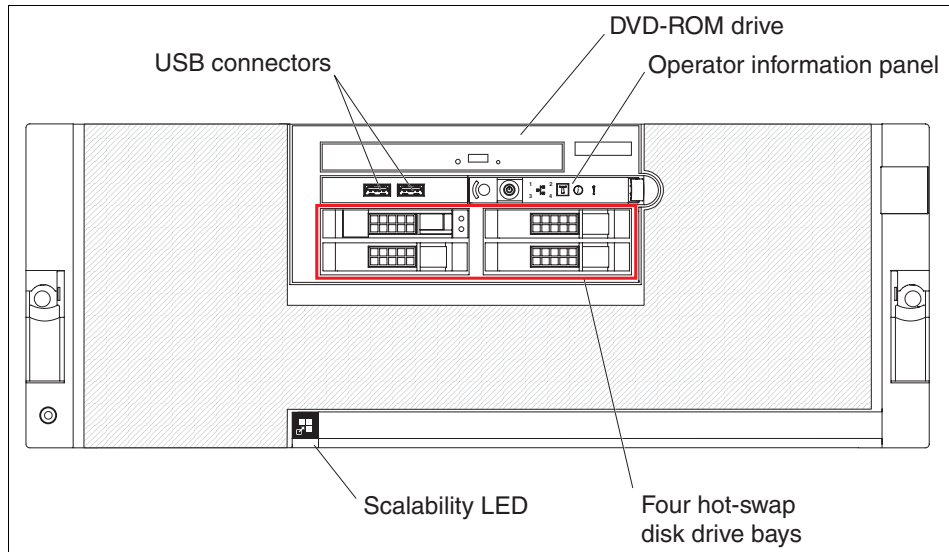

Figure 1-2 Front panel of x3850 M2 and x3950 M2
The components and connectors on the front and rear of the system are shown in Figure 1-2 on page 3 and Figure 1-3 on page 4.
The front panel of the x3850 M2 and the x3950 M2, as shown in Figure 1-2, provides easy access to a maximum of four hot-swap 2.5-inch SAS drives, DVD-ROM, two USB 2.0 ports, an operator information panel with power on/off button, and LEDs indicating information such as scalability, network activity, and system errors and warnings.
- ▶ Operator information panel (see Figure 1-2 on page 3), which provides light path diagnostics information